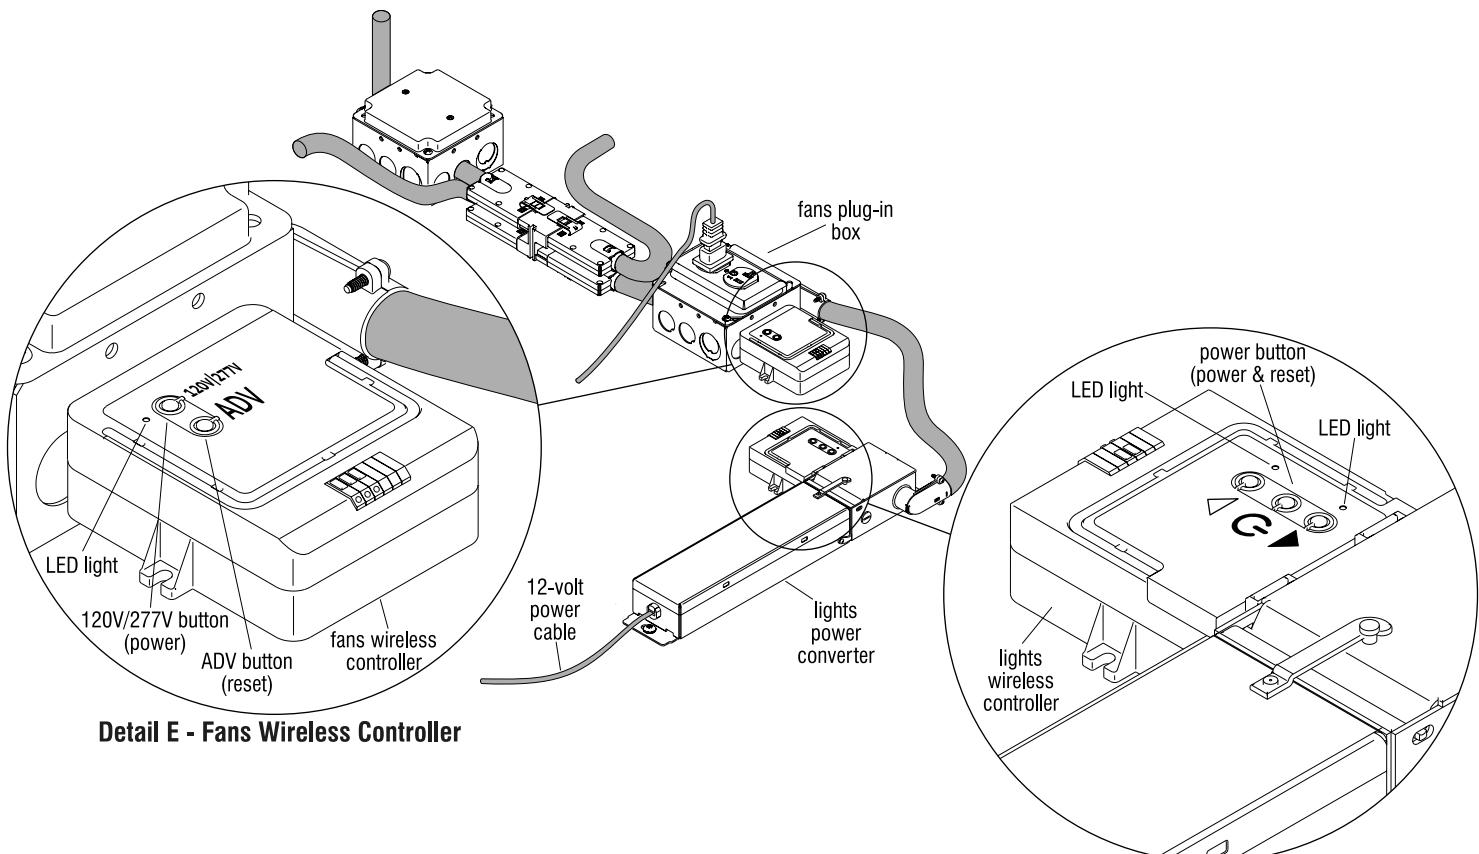

Figure 10 - Wireless Controllers
**Note:** Fans and Lights should be OFF. Fans can be turned off by pressing the 120V/277V button on the fans on/off wireless controller until the LED light on the controller turns off. The Lights can be turned off by pressing the power button on the lights on/off/dim wireless controller until both LED lights on the controller are turned off (Figure 10, Details E & F)
1. Above the ceiling, at the fans wireless controller, initiate a reset by pressing the ADV button four times, and hold the button down at the fourth press for six seconds until the LED light starts to flash, then release the button immediately. Quickly press and release the button three more times. The fans wireless controller LED light will then turn off after a few seconds. The controller is now reset (Figure 10 & Detail E).
2. Above the ceiling, at the lights wireless controller, initiate a reset by pressing the middle power button four times, and hold the button down at the fourth press for six seconds until both LED lights starts to flash, then release the button immediately. Quickly press and release the button three more times. LED lights on the controller will both turn off after a few seconds. The controller is now reset (Figure 10 & Detail F).